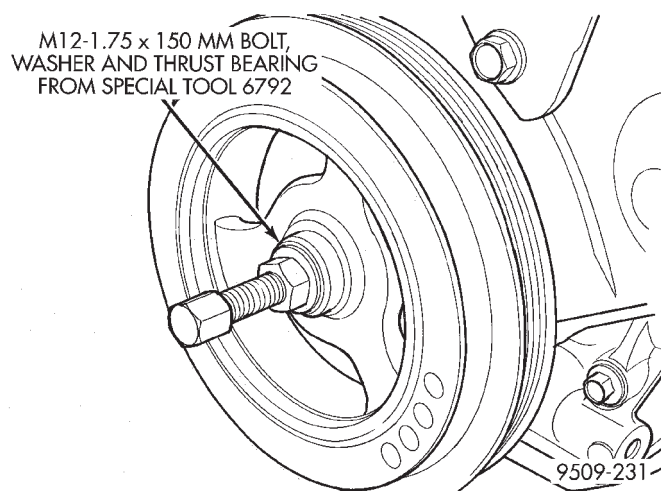

Fig. 58 Crankshaft Damper—Installation
(4) Install timing belt and covers. Refer to Timing Belt System in this section for installation.
(5) Install crankshaft damper (Fig. 58). Use thrust bearing/washer and 12M-1.75 x 150 mm bolt from